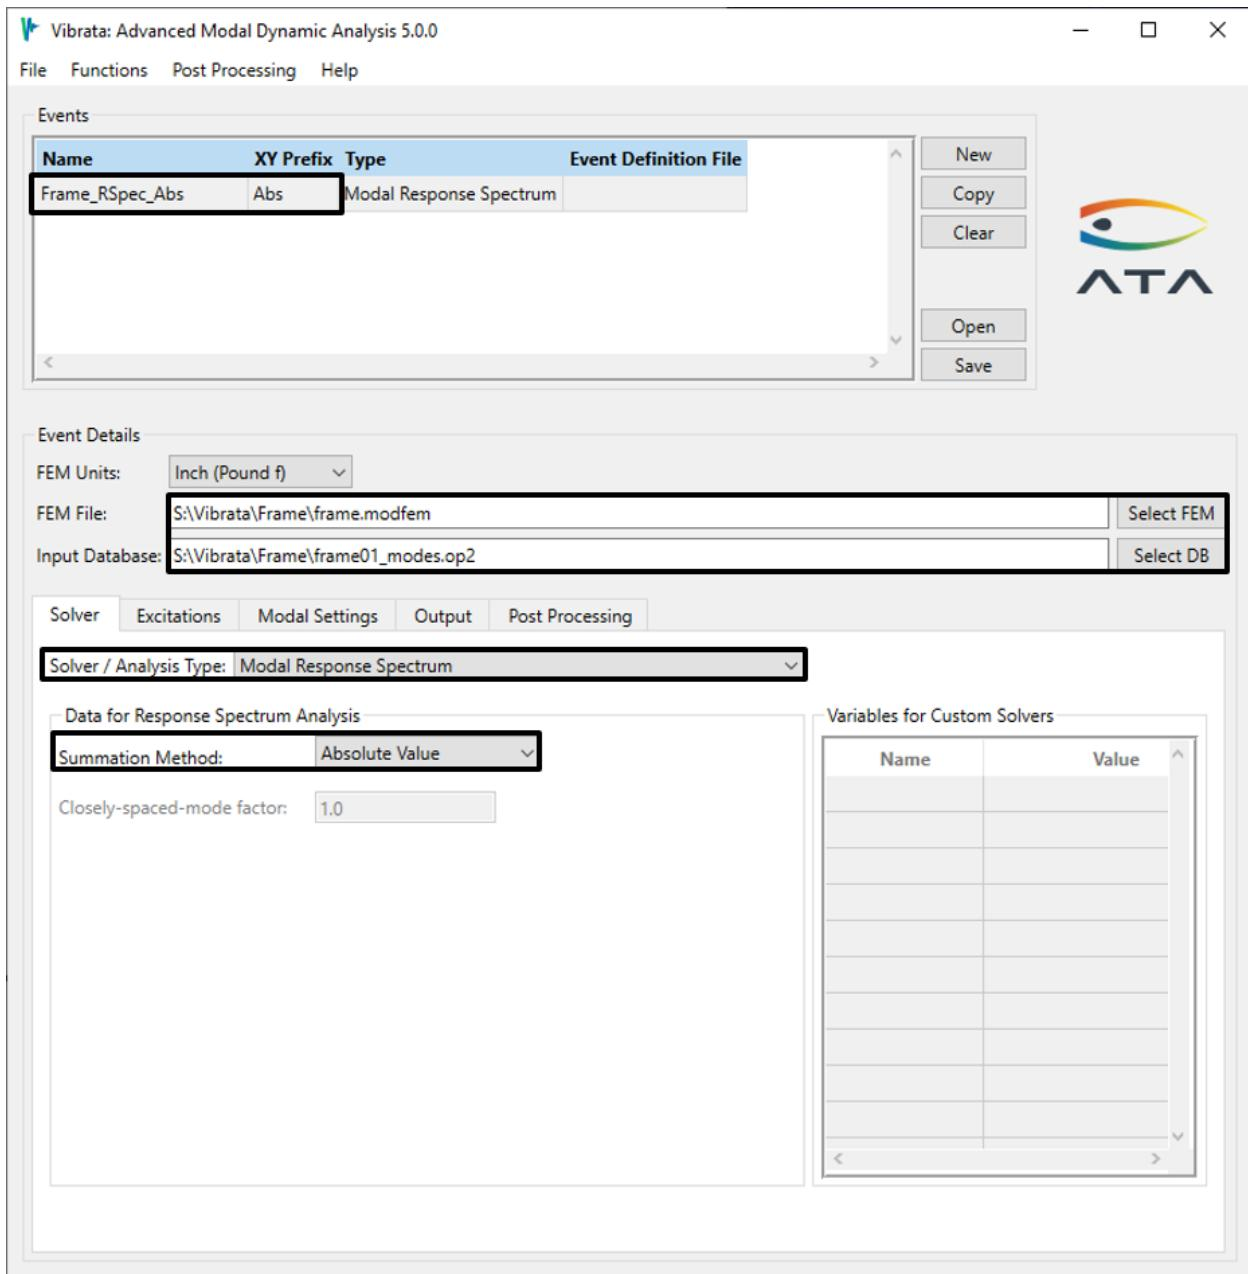

Figure 4-77. New response spectrum event with absolute value summation.
2. Create a new Vibrata event, select the “frame.modfem” file for the FEM and “frame01_modes.op2” for the results, and create a Modal Response Spectrum event with the **Summation Method** set to *Absolute Value* (Figure 4-77).